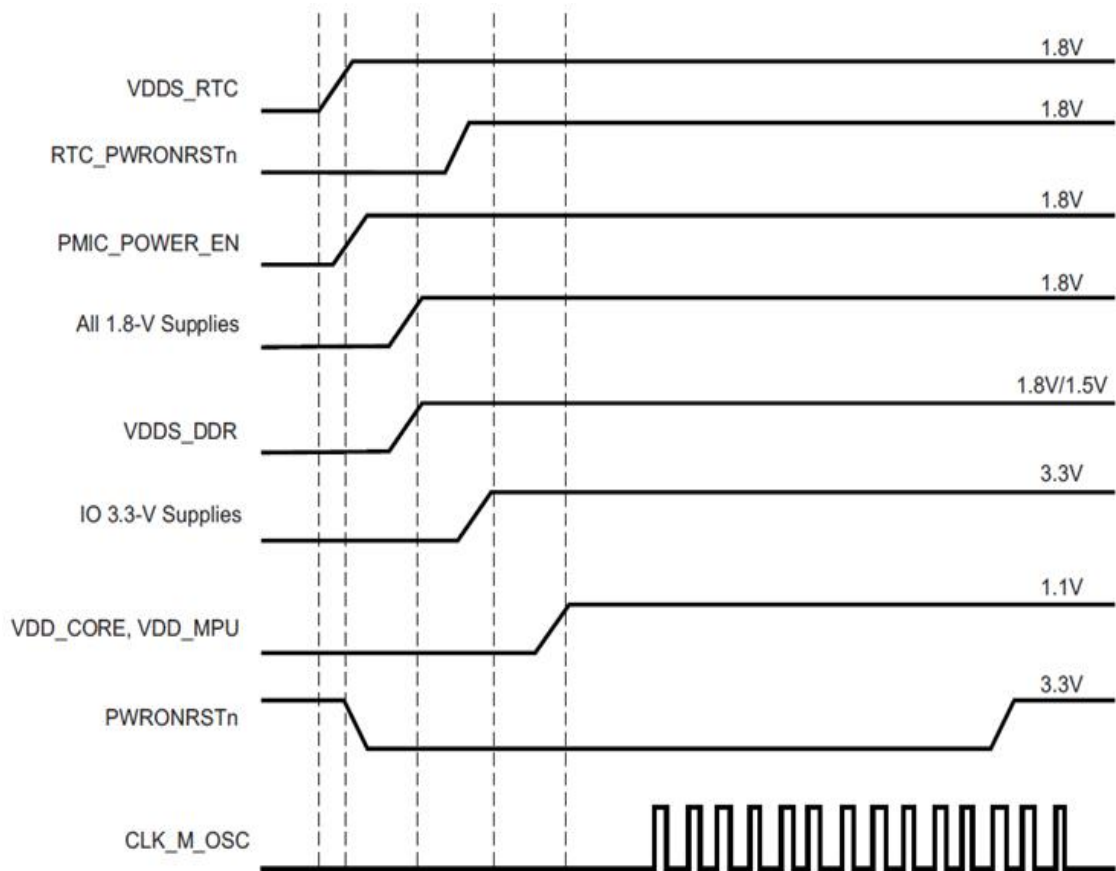

Figure 4-2 Power-on Sequence
- ◆ Power on sequence shows in figure 4-2.